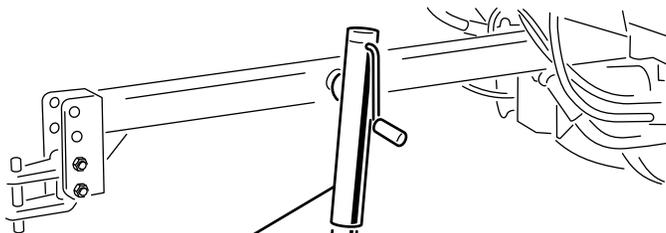

Figure 5
1. Slide tongue jack onto mounting tube on tongue (Figure 5).
2. Align holes in jack with tongue and secure with clevis pin (Figure 5).
3. For storage, jack can be removed or rotated upward and pinned (Figure 5).